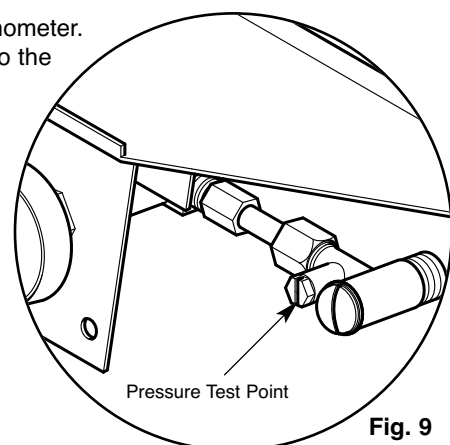

Fig. 9
1. Unscrew the pressure test point sealing screw (Fig. 9) and fit a manometer. Consult the user instructions (page 11). Ignite the appliance and turn to the high position.